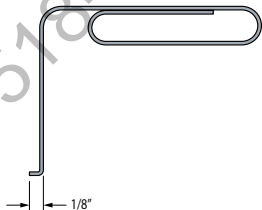

Figure 12.2
- After the user interface is removed; use a paper clip to aid in removal of the old battery see **Figures 12.2 through 12.5**.